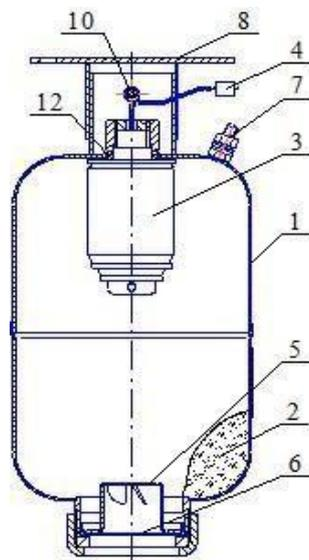
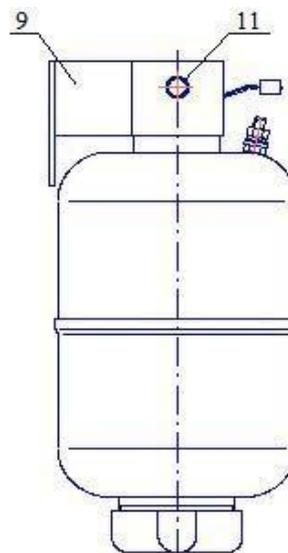
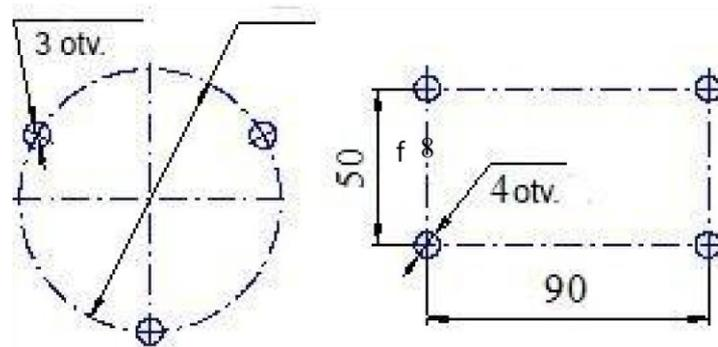
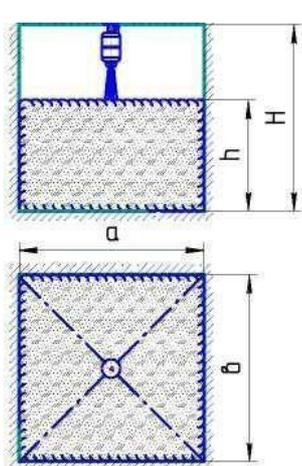

Figure 1
Figure 2
Figure 3
Figure 4
4.1 MPH (Figure 1. and Figure 2.) consists of the pressure body 1, which includes: extinguishing powder (HP) 2 and cold gas generator (GSP) 3 with electric fuse 4. On the other side of the hood is the atomizer insert 5, as well as the outlet, which closes with a membrane 6. The module is equipped with a grounding terminal 7. The upper part of the MPH is equipped with a holder for the ceiling 8., or for the wall 9.
6.2 Suspension 8 can be mounted under the ceiling (Figure 1) or suspension 9 (Figure 2) can be attached to the wall. Please mark the places for attaching the suspension as on the (Figure 3) and on the wall acc. (Figure 4).
6.6 The configuration of the powder propagation and the representation of the erasing surfaces shown in the following figures 4, 5 and tables 2 and 3.